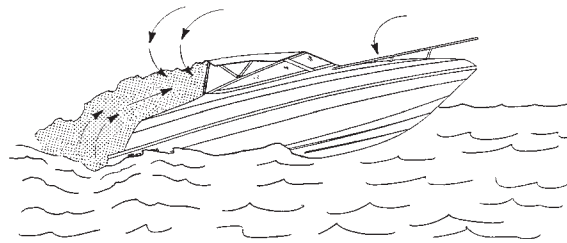

Figure B-10: Inefficient trim angles.
1. Intentional or unintentional excessive trim angle causing high bow angle. See Figure B-10.